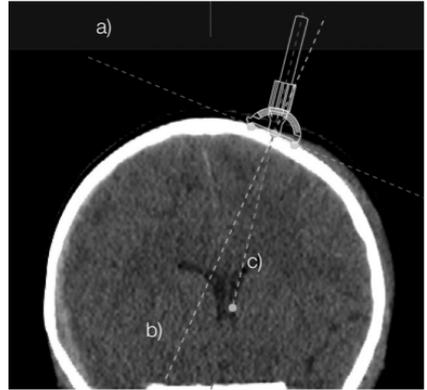

Fig 8: CCT in coronary layer
2. To allow an easier unique measurement of the trajectory angle, import a regular coronary cross-section along the body axis. Preferably, the image should show the level of the anterior horn in front of the 3. ventricle (Fig. 8 and 9). Mark the entry point on the surface of the cranial bone (not the skin) on this image. The entry point should be chosen